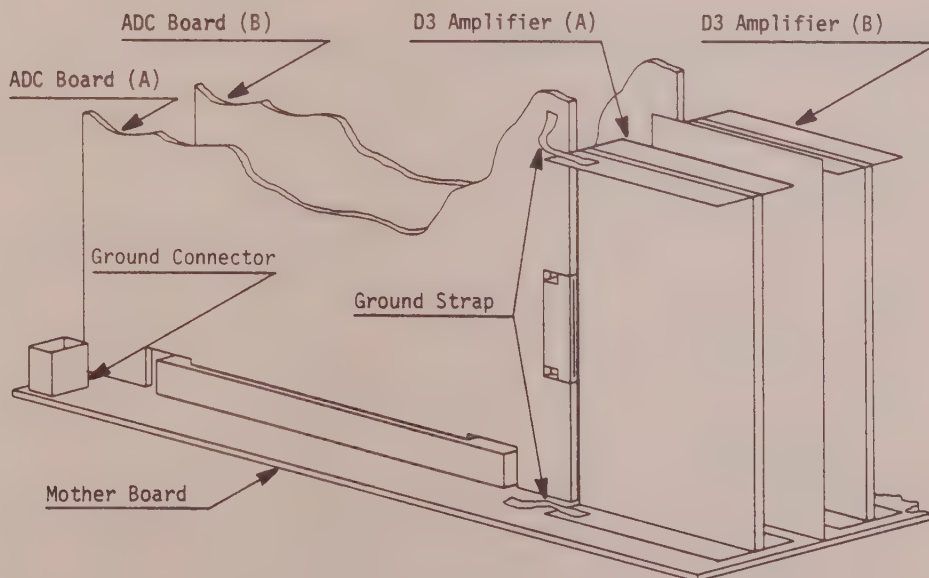

Figure 1-2
- 1.2.2. Unplug the extended channel A D3 Amplifier board (Figure 1-2) and set it aside.